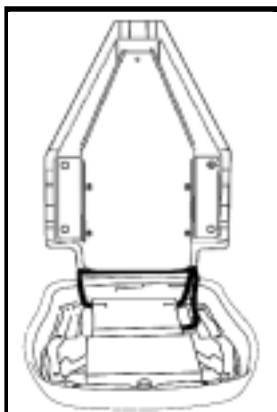

FIGURE 37
1. CONNECT THE TWO DVD MAIN HARNESS CONNECTORS AND THE DOME LIGHT CONNECTOR TO THE DVD ASSEMBLY. (SEE FIGURE 37)